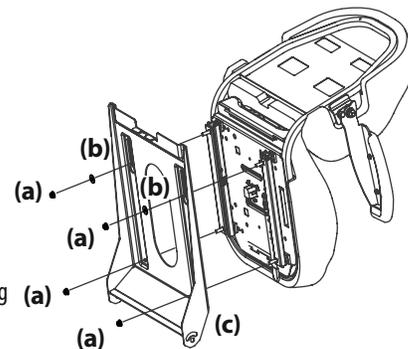

Figure 6
2. Install the seat onto the seat pan (c) using hardware provided using flange lock nuts (a) and flat washers (b). See Figure 6.